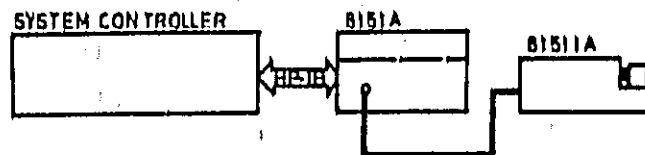

Figure 4-17. Test setup for HP-IB Capability tests
1. Connect the equipment as shown in Figure 4-17.